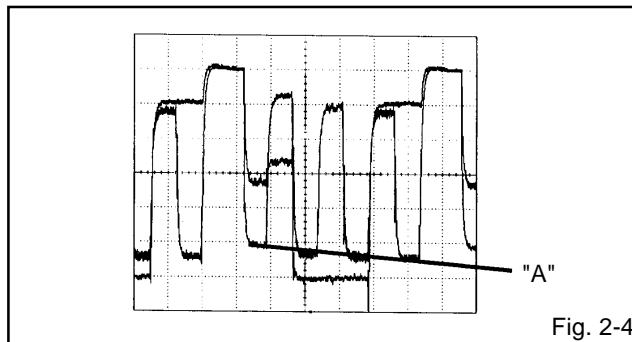

Fig. 2-4
5. Press the VOL. UP/DOWN button on the remote control until the section "A" becomes a straight line. **(Refer to Fig. 2-4)**